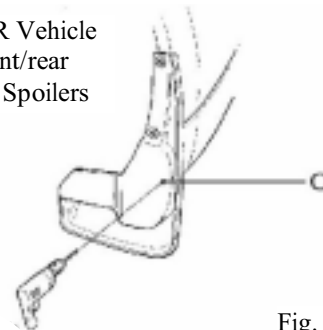

Fig. F-7
9. While holding mudguard tight to the vehicle, drill a 2 mm center pilot hole in location C. (Fig. F-7)